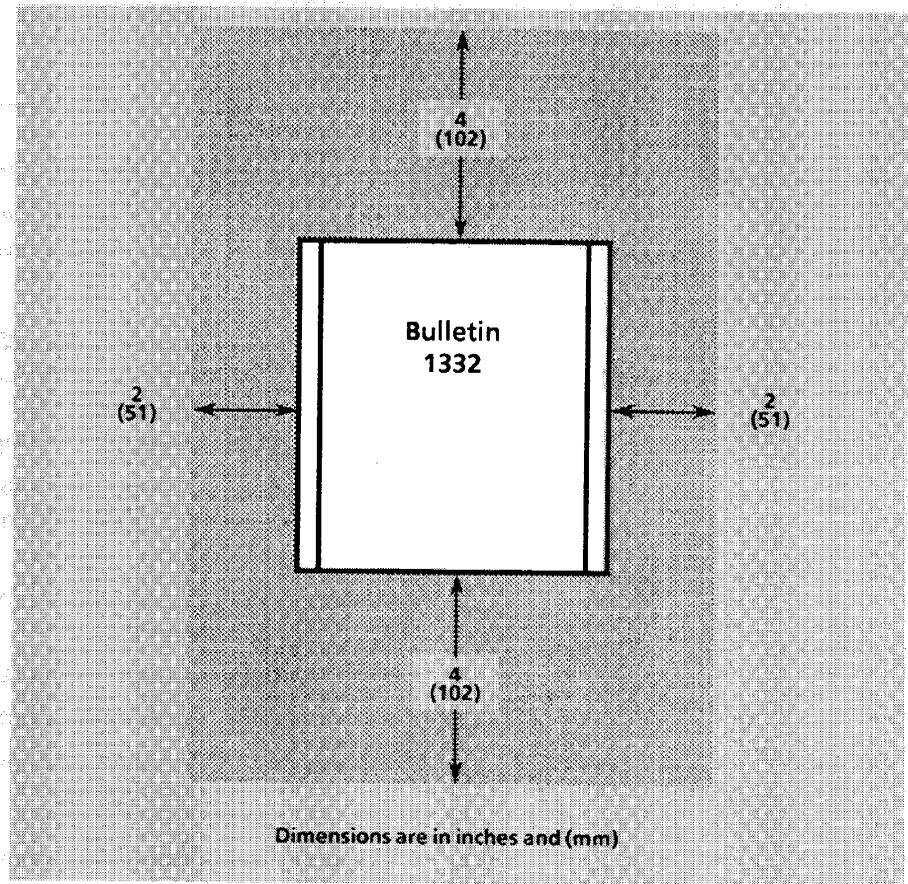

Figure 3-1. Minimum Mounting Clearances
- Cabinet mounting is upright, leaving room for a minimum clearance of the specified distance given in Figure 3-1.